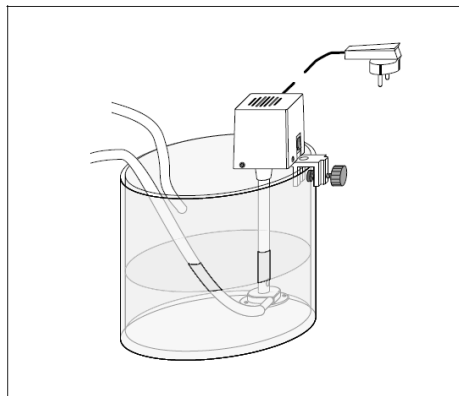

Figure 1.4: Setup example for mounting the immersion pump on the water vessel
10. Fill the water vessel with water and attach the immersion pump to the rim of the water vessel e.g. using the mounting clamp so that the inlet opening is completely submerged and the maximum immersion depth of 17 cm is not exceeded (see Figure 1.4).